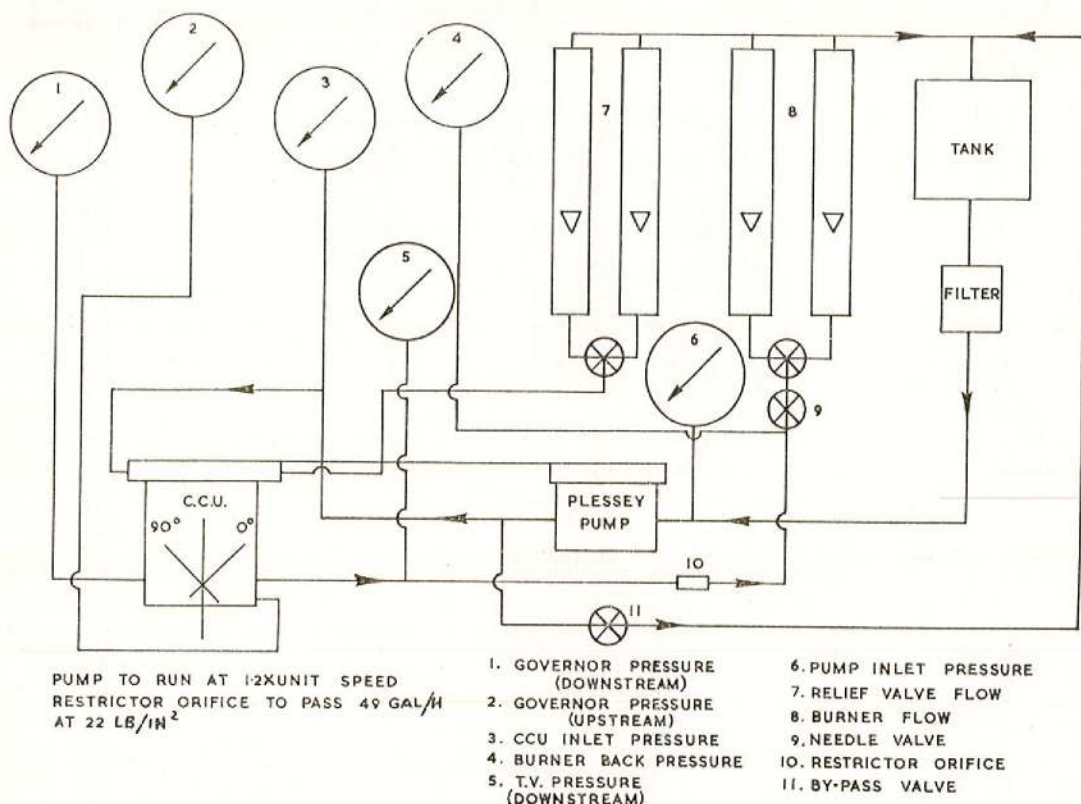

Fig. 10. Diagrammatic layout of test rig
77. For all other tests, the unit is connected to the rig R.212, shown diagrammatically in fig. 10. Except for those tests detailed in para. 74 to 77 a back pressure